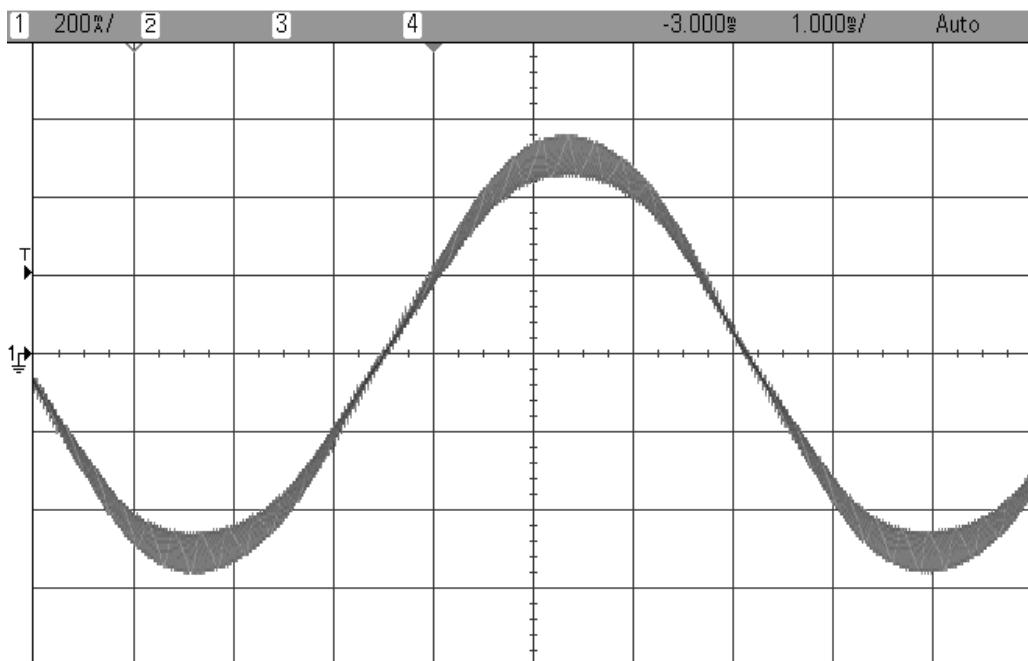
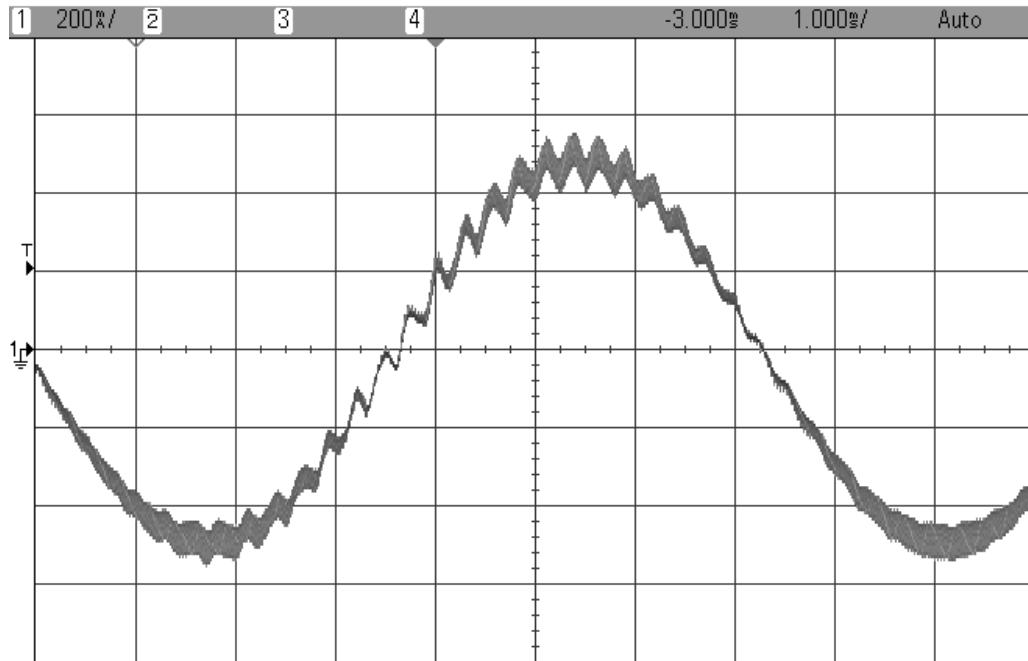

Figure 33: K_p^{series} setting that has been calculated at 1/20 of the bandwidth.
Figure 34: K_p^{series} setting that is too high resulting in the controller becoming unstable.
As the bandwidth gets wider, the sampling delay has more of a negative effect on the phase margin of the controller and causes the control loop to become unstable. Figure 33 is a plot of the motor current waveform with a stable K_p^{series} setting. As the K_p^{series} is increased, the phase margin of the control loop becomes smaller. After a while the control loop is unstable and starts to oscillate as shown in Figure 34. The current controller gain should not be set to this high of a value. When a current loop instability occurs, lower the K_p^{series} gain until the current waveform is like the one in the following figure.
- When the motor makes the high pitch noise, its current waveform looks like that in Figure 34.